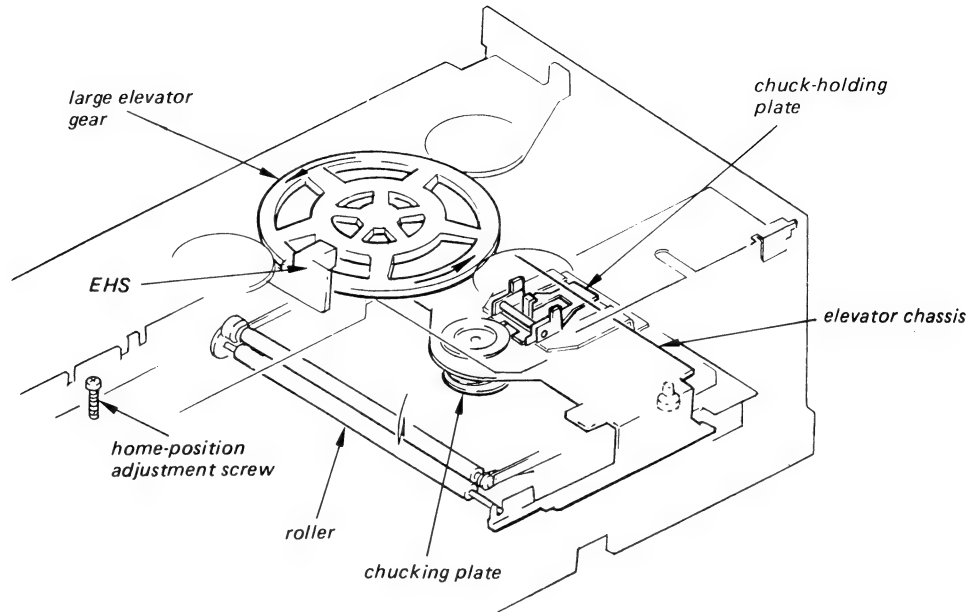

Fig. 3
9. Fine adjust the position of the large elevator gear with the home-position adjustment screw shown in Fig. 3.